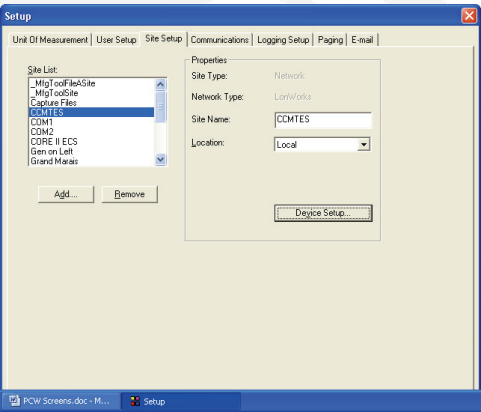

FIGURE 2-47. SELECTING THE CCM
8. From the Site Setup dialog, select the CCM name from the Site List and click on **Device Setup** (see Figure 2-47).